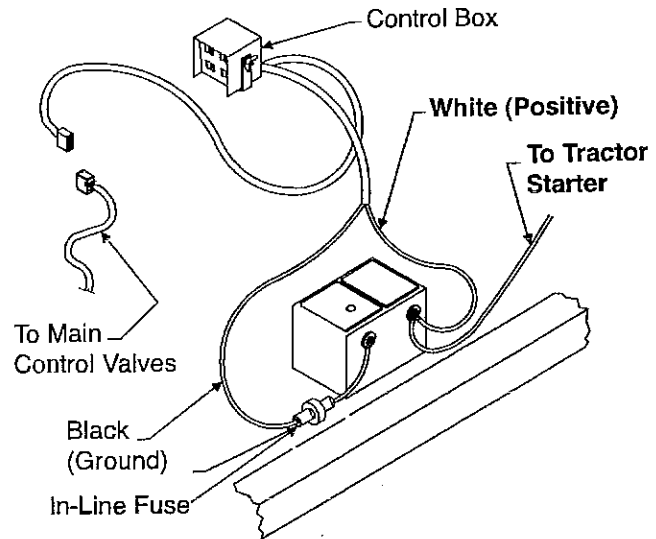

Figure 1.06: Control Box Power Connection.
1. Install the control box in the tractor cab and connect the power cord to a suitable 12 volt power supply as shown in Figure 1.06. (White to Positive, Black to Negative).